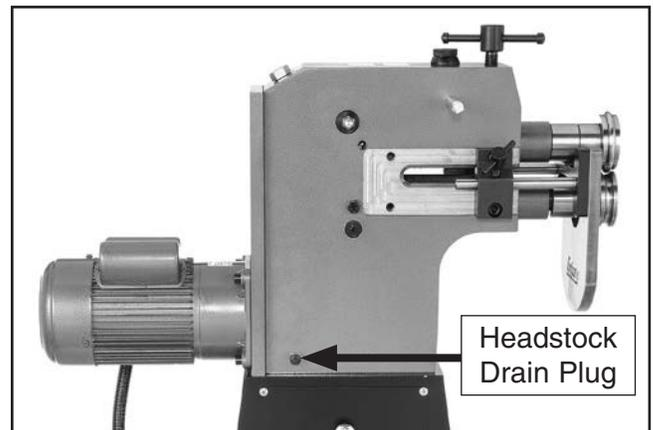

Figure 38. Location of headstock drain plug.
3. Place 1–2-gallon catch pan under headstock drain plug (see **Figure 38**), then remove drain plug.